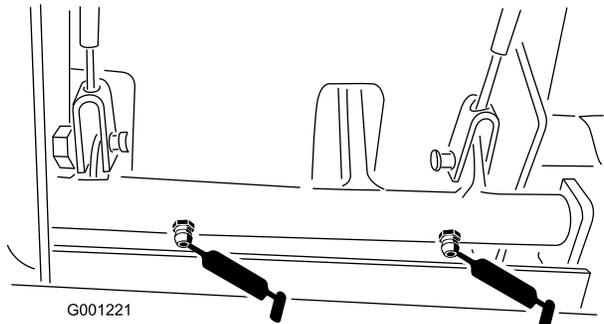

Figure 38
- Brake pivot bushings (Figure 38)
- Brake cables (drive wheel and brake pedal ends) (Figure 38)